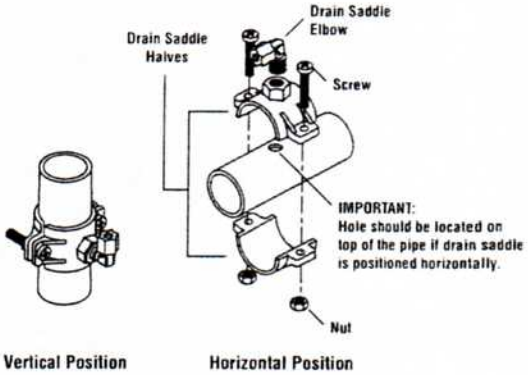

Fig. 5
- 4) Use the screws and nuts to clamp the drain saddle onto the drain pipe. Make sure that there is equal space between saddle halves on each side. Do not overtighten. (See Fig. 5)